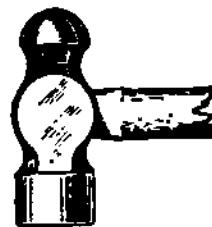

Figure 1-113. Ball-Peen Hammer
d) A typical ball-peen hammer is illustrated in Figure 1-113.